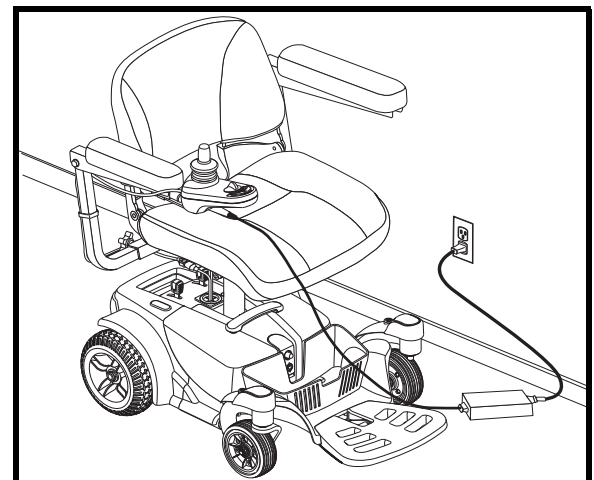

Figure 23. Battery Charging Through Controller
3. Plug the off-board charger into the XLR off-board charger port located on the controller. See figure 23.